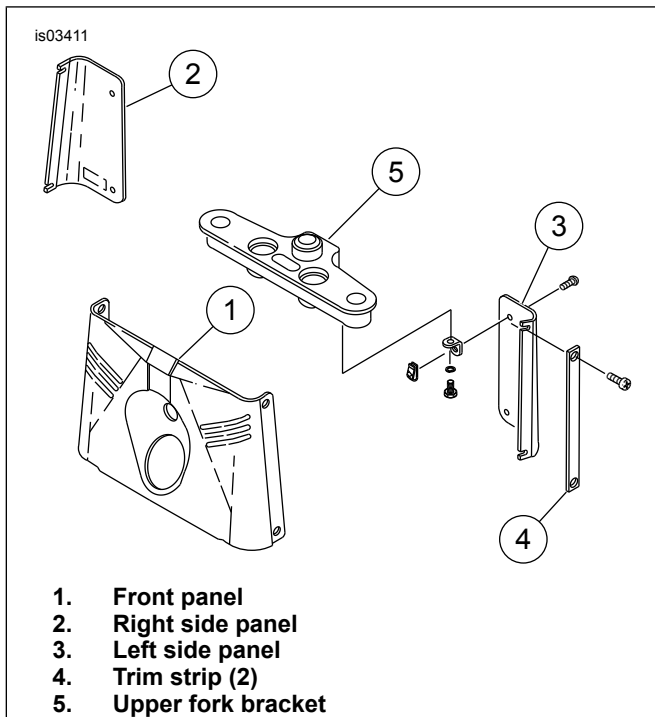

Figure 2. Front Fork Panels
6. See Figure 2. Remove screws that hold trim strips (4), side back panels (2, 3), and front panel (1) in place. Remove panels. When removing panels, carefully remove the brake line-routing clamps from the right side back panel. **Do not** open the brake line.